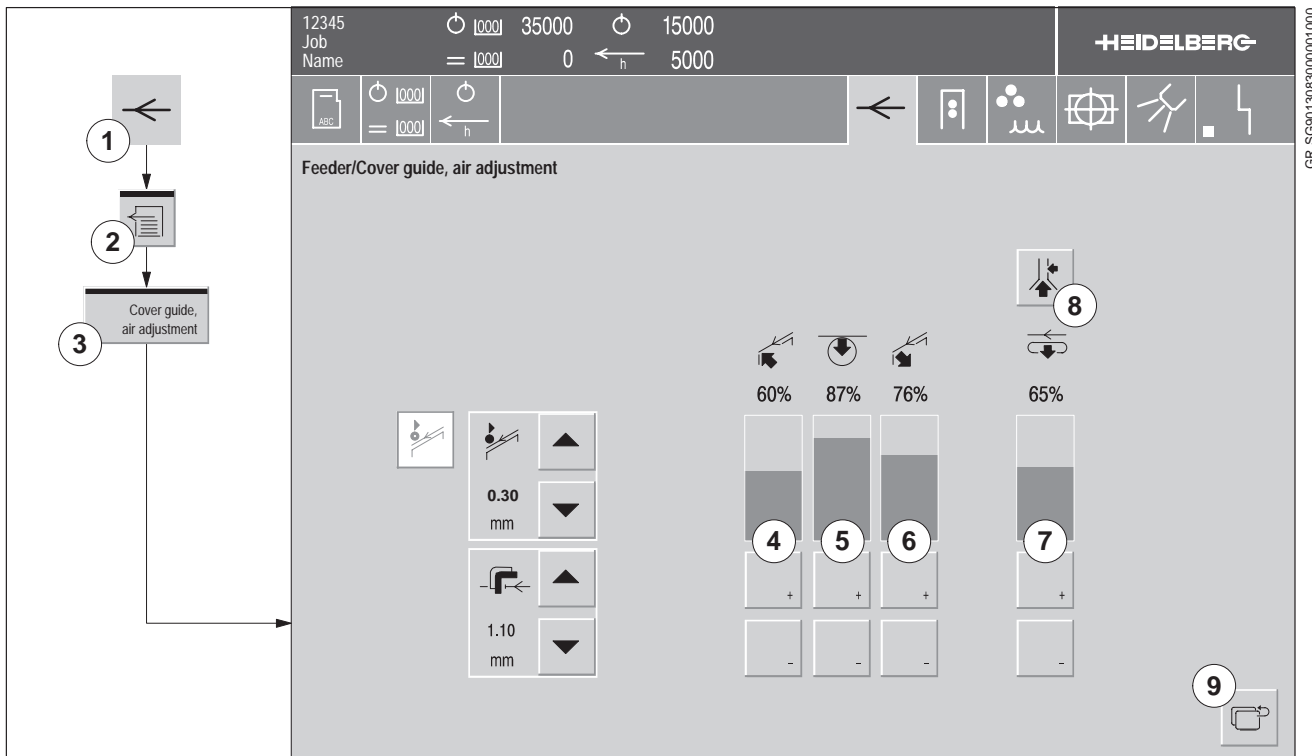

Fig. 4 Air adjustment - Preset Plus feeder
- The blast air at the blowing/suction nozzle (Fig. 4/4)
- The suction air at the propelling roller (Fig. 4/5)
- The suction air at the pull plate (Fig. 4/6)
- The suction air at the suction tape (Fig. 4/7)
- The by-pass valve at the suction tape (Fig. 4/8)
1. Press the *Sheet travel* button (Fig. 4/1) in the banner line. The **Paper run** menu appears.
2. Press the *Feeder* button (Fig. 4/2). The **Paper run/Feeder** menu appears.
3. Press the *Cover guide, air adjustment* button (Fig. 4/3). The **Feeder/Cover guide, air adjustment** menu (Fig. 4) appears.
4. Use the "+" and "-" buttons (Fig. 4/4) to adjust the blast air at the blowing/suction nozzle. The selected value appears above the bar chart.
5. Use the "+" and "-" buttons (Fig. 4/5) to adjust the suction air at the propelling roller. The selected value appears above the bar chart.
6. Use the "+" and "-" buttons (Fig. 4/6) to adjust the suction air at the pull plate. The selected value appears above the bar chart.
7. Use the "+" and "-" buttons (Fig. 4/7) to adjust the suction air at the suction tape. The selected value appears above the bar chart.
8. Press the *By-pass valve open/close* button (Fig. 4/8) to be able to reduce the suction air at the suction tape further. The button is highlighted when the valve is open.
9. To exit the menu: Press the *Return* button (Fig. 4/9), or a button in the banner line.